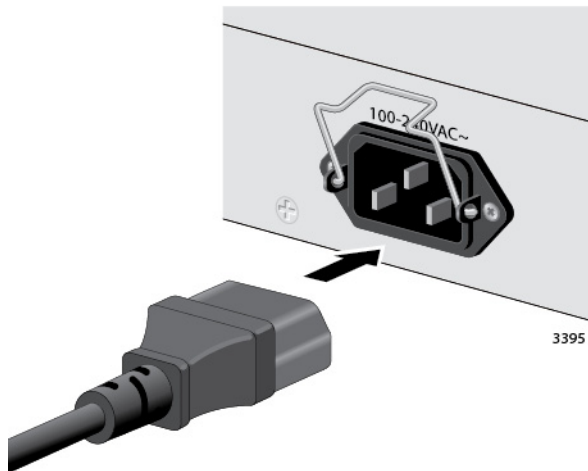

Figure 47. Plugging in the AC Power Cord
3. Connect the power cord to the connector. See Figure 47.